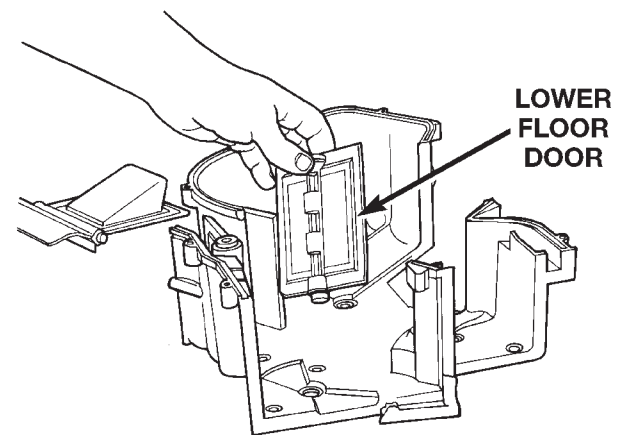

Fig. 80 Lower Floor Door
(27) Remove lower half of the Floor door (Fig. 80).